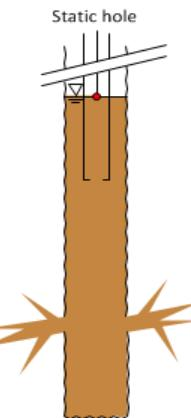

Figure 2
- The first step to properly emplace a drift plug is to determine the static fluid level using a floating 'bob' on wireline (Figure 2) inside of the drill pipe or a similar method or estimate the fluid level from changes in pump pressure.